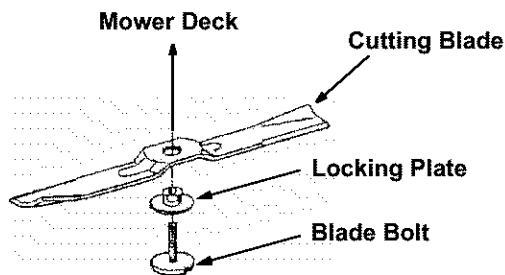

Figure 12
- Place the cutting blade, locking plate, and blade bolt on the motor shaft and thread the blade bolt in finger tight. Refer to Figure 12.